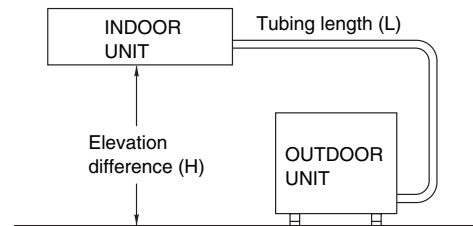

Fig. 2a
- install the unit within the maximum elevation difference (H) above or below the outdoor unit and within a total tubing length (L) from the outdoor unit as detailed in Table 1 and Fig. 2a.